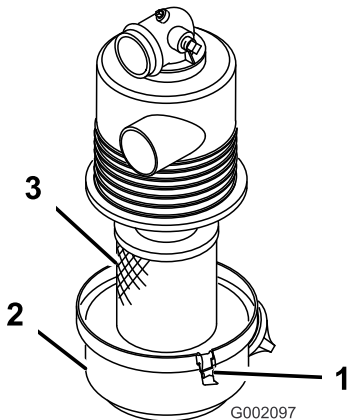

Figure 25
3. Release the latches securing the air-filter cover to the air-filter housing, and remove the cover (Figure 25).
4. Gently slide the air-filter element (Figure 25) out of the filter housing.